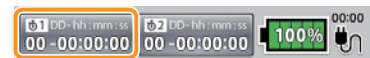

Figure 2-17
1. Tap the count up timer indicator. (Figure 2-17)